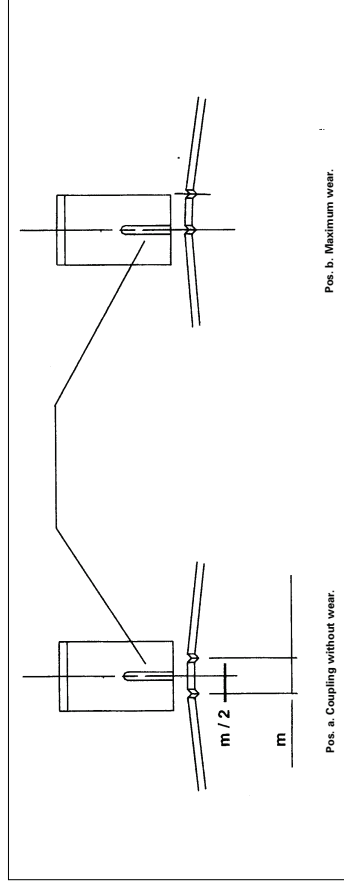

Fig 18 Wear of the coupling.
- Internal wear of the toothing. Wear may be checked by means of the position of the indicator mark over the marks on the hub (Fig. 18). The relative position of the two marks reveals the wear of the flanks.